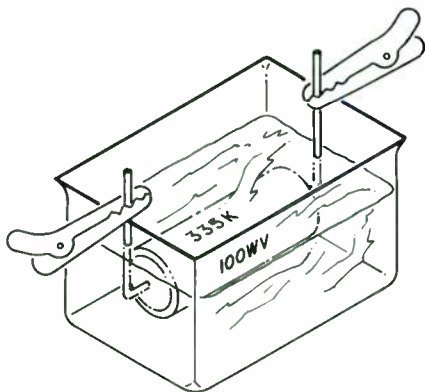

FIGURE 1: Alligator clips hold the object in the mold and protect the leads from the resin.
2. Make another batch of the mixture. Coat the item to be embedded with this fresh mixture and set it on top of the gel layer. Do not coat the leads from the circuit or device with resin. To protect them from the mixture, hold them perpendicular with clips or jigs during the curing process (Fig. 1).